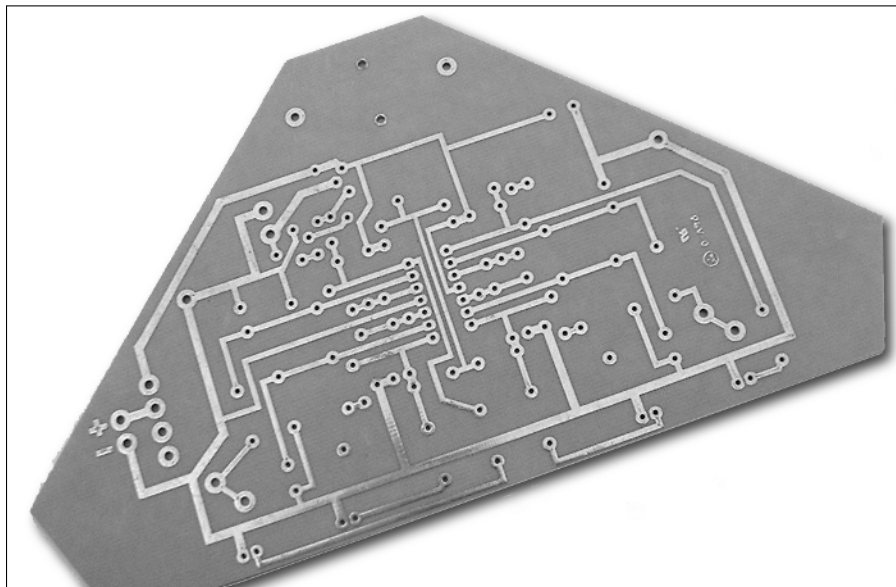

Figure 12-2:
- **Traces:** These wires of the circuit board run between the pads to electrically connect the components together. See Figure 12-2 for an example of traces.